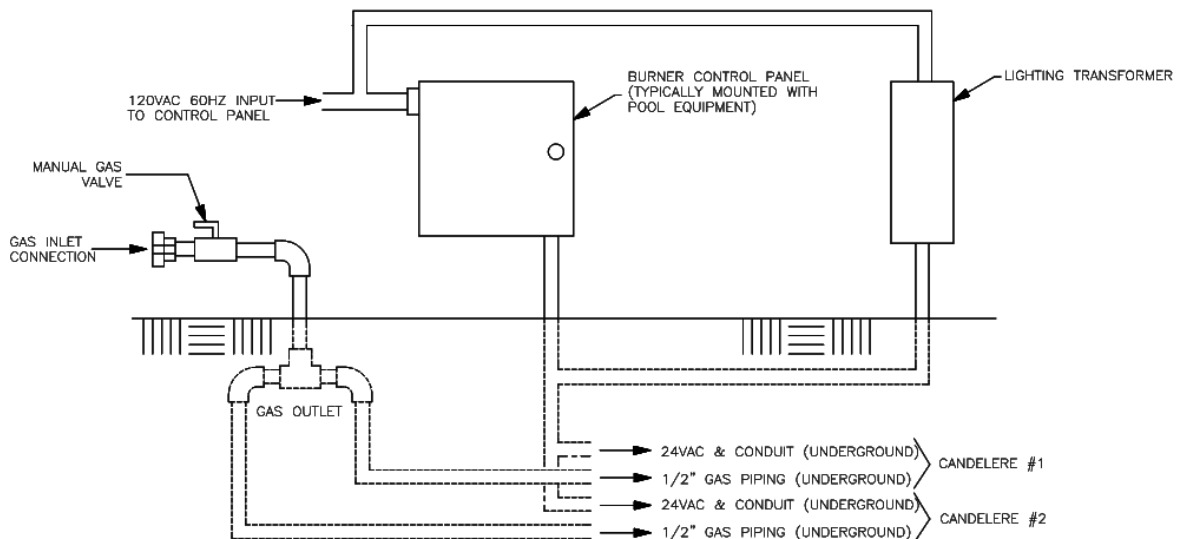
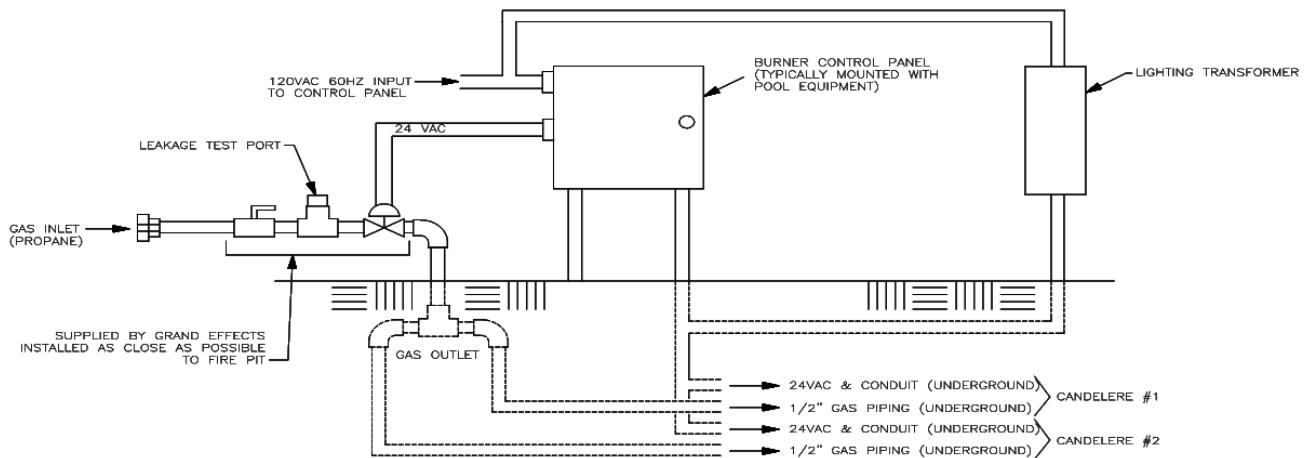
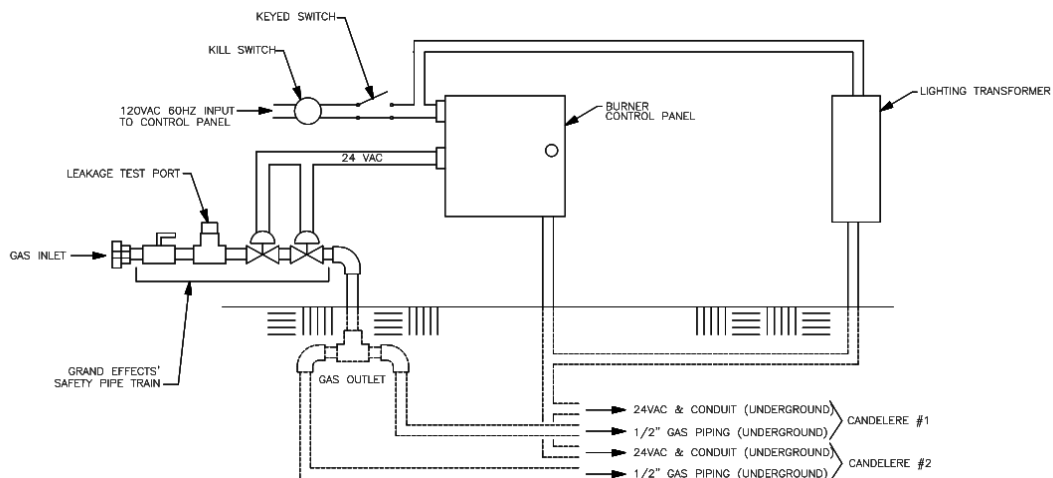

Figure 1: Natural Gas
Figure 2: Propane Gas
Figure 3: Commercial Installation
1. Install the burner control panel and gas piping as shown in Figure 1: Natural Gas, Figure 2: Propane Gas, or Figure 3: Commercial Installation. Gas lines must be clean and free from any dirt, debris, or contamination.
Note: Propane piping is different than natural gas piping (shown in Figure 1 and Figure 2).
The same pool controller auxiliary relay to send 120v to the burner assembly can also be wired to send 120v to the transformer, powering up the LED lights in the candelere and the burner system at the same time (see Figure 1). Using water proof wire nuts, connect wires at LED white lights. Polarity is not important.
The light transformer supplied by Grand Effects can be installed next to the Grand Effects Control Panel. The transformer requires a 120 VAC input source. The same pool controller auxiliary relay to send 120v to the burner assembly can also be wired to send 120v to the transformer, powering up the color LED lights in the candelere and the burner system at the same time (see Figure 1).